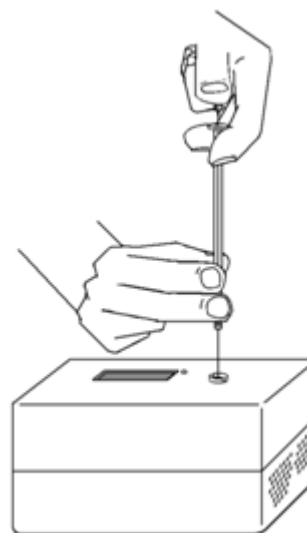

Figure 3
- b. To insert the needle of the syringe into the injection port of the Mini GC, hold the syringe with one hand and steady the needle with your other hand, as shown in Figure 3. Insert the needle into the injection port until the needle stop is fully seated. If the needle sticks, rotate it slightly while inserting. Do not move the plunger yet.